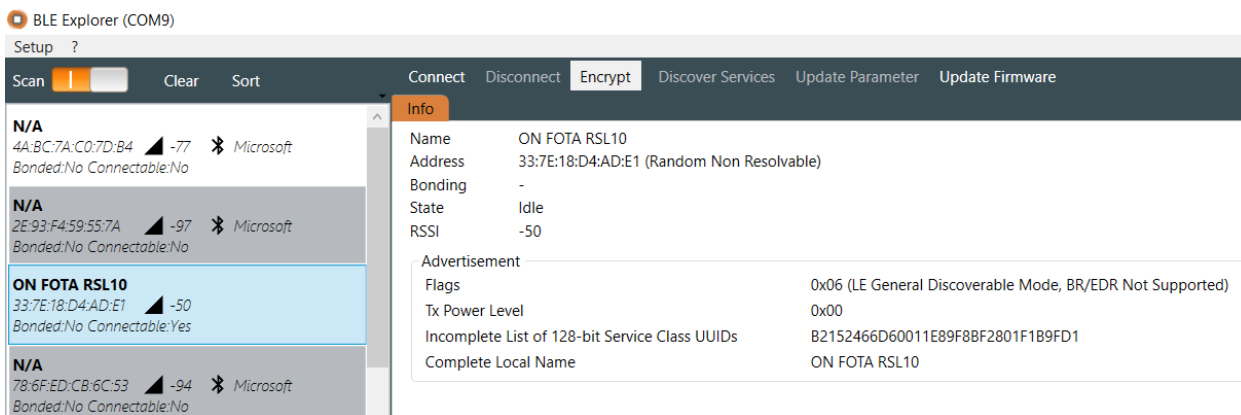

Figure 18. FOTA DFU Mode Running
- Push the DIO5 button on your RSL10 EVB so that the device starts the FOTA DFU mode. You can see the name **ON FOTA RSL10** on the RSL10 Bluetooth Low Energy Explorer, as in Figure 18, below: